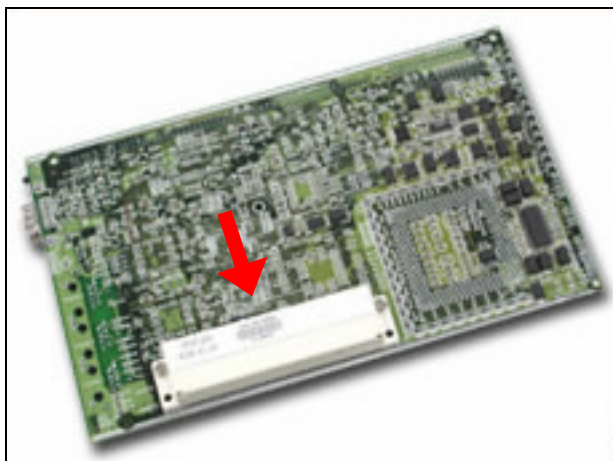

Fig. 2-32 PCI slot on the back of PPAP-200
1. The PCI slot is located on the back of the board (*Fig. 2-32*).